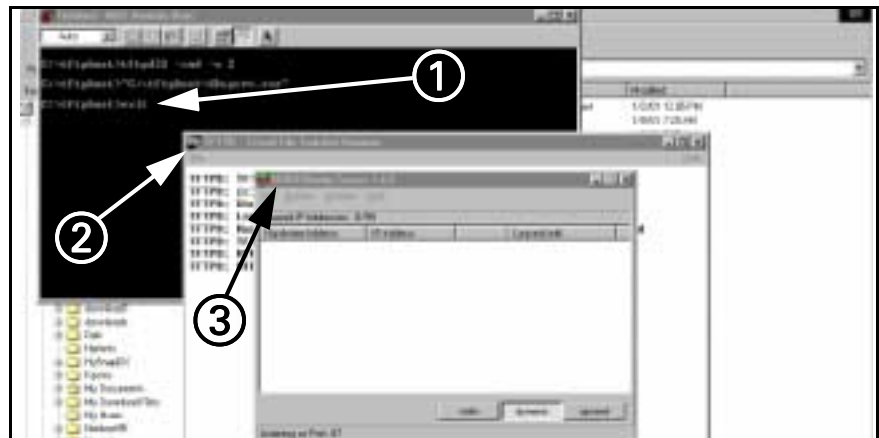

Figure 15-13 Window tftpd
6. Verify “Finished - MDS Remote Boot” window (① in Figure 15-13) opens, then “TFTPD - Trivial File Transfer Daemon” window (② in Figure 15-13) opens, then DHCP/Bootp Server 1.6.5 window opens (③ in Figure 15-13). If not displayed repeat steps 2-4. If windows still are not displayed, repeat Section 16.3.3, then Section 16.5.
Note: DHCP/Boottp Server 1.6.5 window may open Minimized. If window not displayed on Main (③ in Figure 15-13) screen check to see if program in Windows Task bar at bottom of Windows screen.